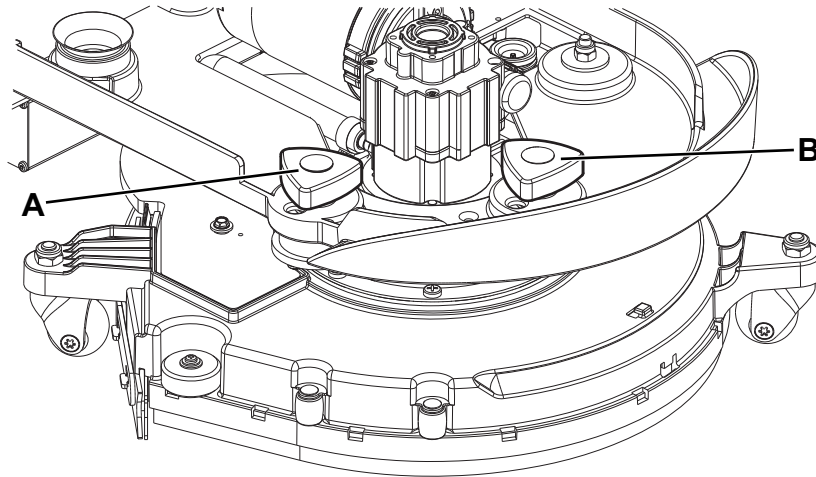

Figure 7
2. Adjust the machine speed with the handwheel (A, Fig. 7) according to the following procedure:
3. If it is difficult to keep the machine moving straight-forwardly because it deviates to the left or to the right, adjust the handwheel (B) by turning it clockwise or counter-clockwise.